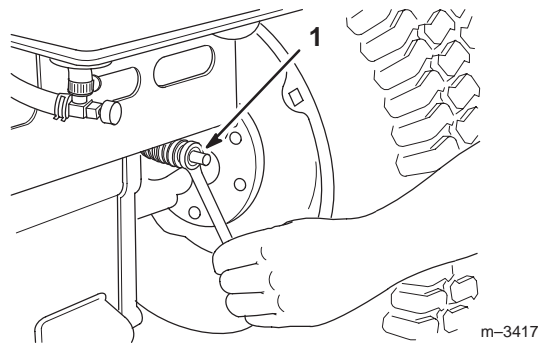

Figure 37
The brake adjustment is at the rear of the tractor (Fig. 37). If the parking brake does not hold securely, an adjustment is required.
4. Turn the brake adjustment nut (Fig. 37) until there is 2” (51 mm) of free travel.